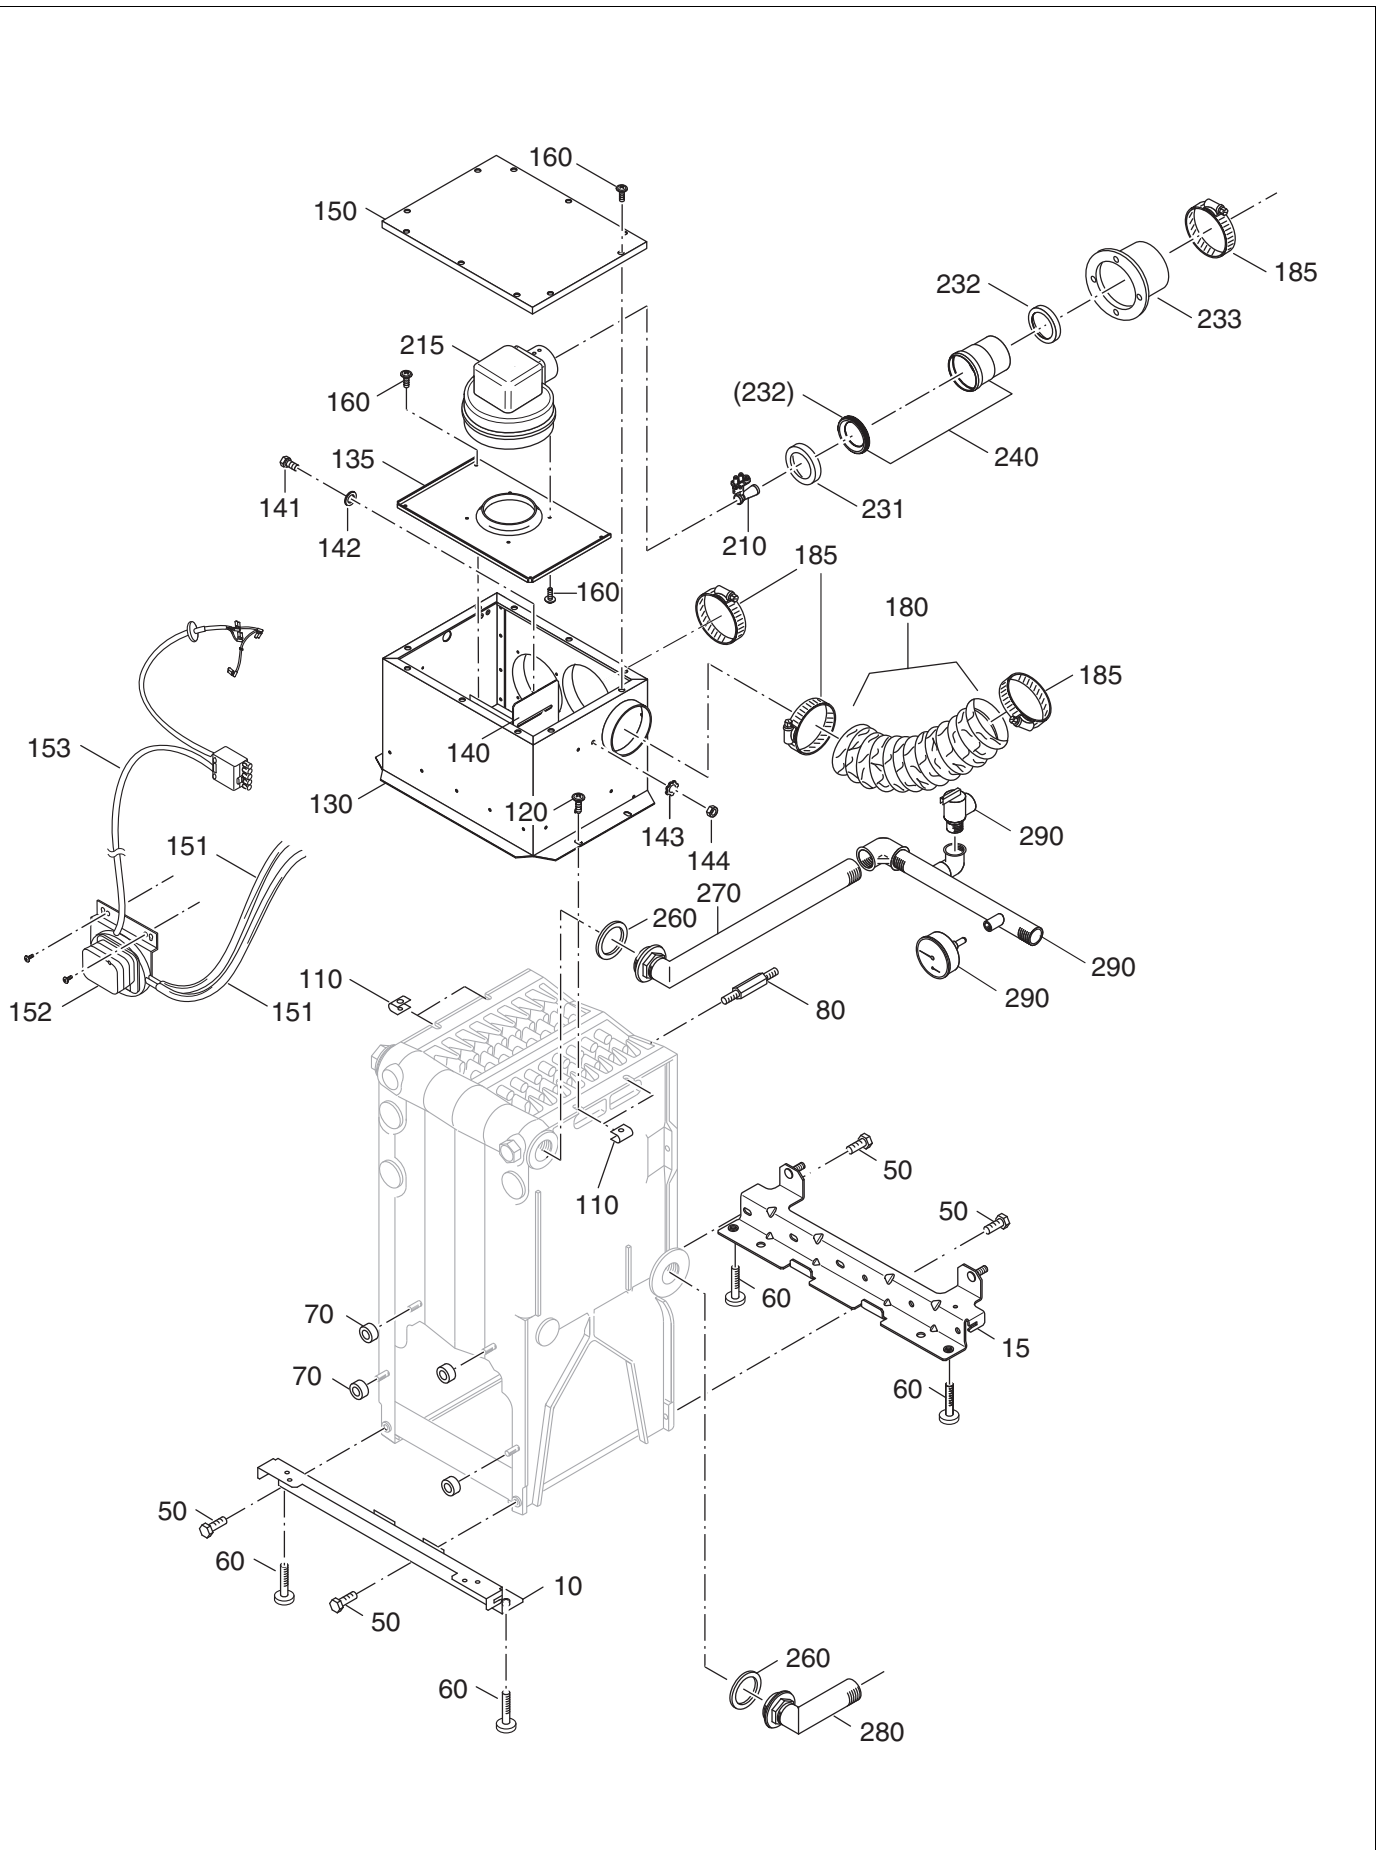

Fig. 58 Boiler block – attachment parts
**Boiler block – attachment parts (→ Fig. 58)**
## Boiler block – attachment parts (→ Fig. 58)